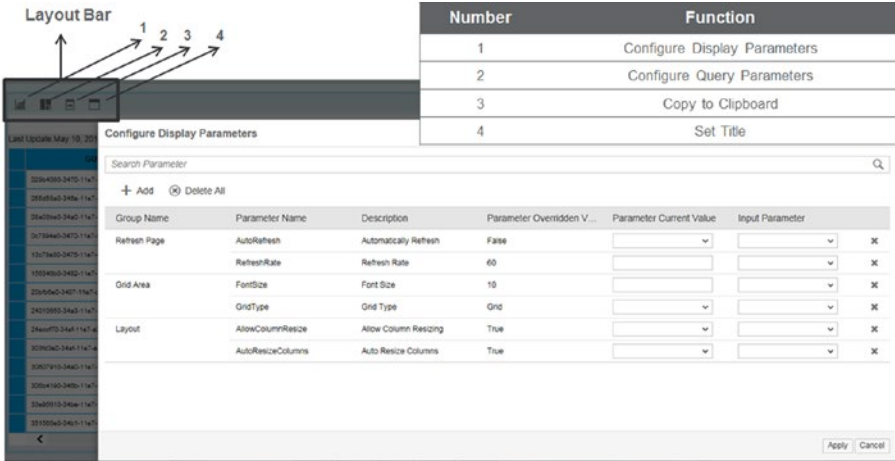

Figure 3-38. The Layout bar in the Design Dashboard
- **Layout Toolbar:** The toolbar just above the layout contains a few actions that could be performed while any MII element is embedded in the dashboard and the basic configuration needs to be changed. See Figure 3-38.